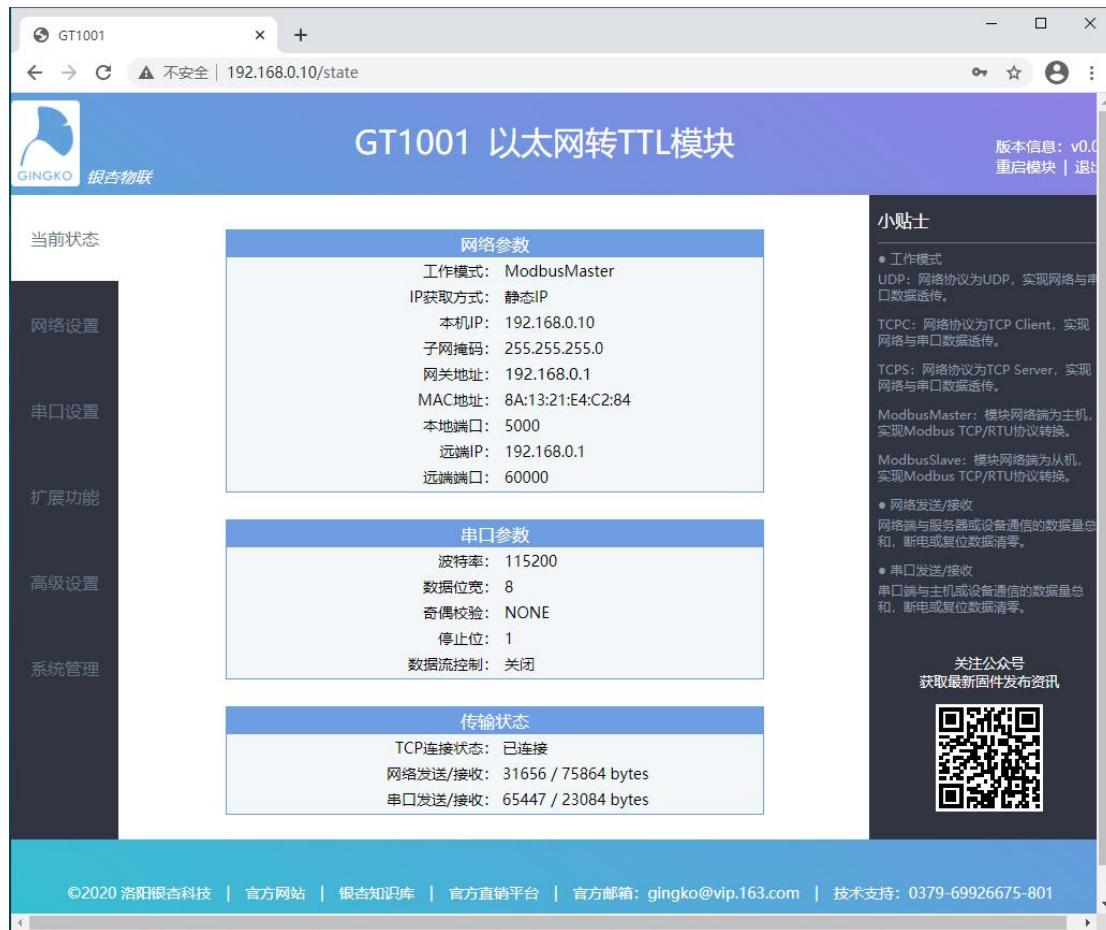

Figure 7-2 Current Device Status
(2) After entering, you can query the parameters and transmission status set by the current equipment, as shown in Figure 7-2.